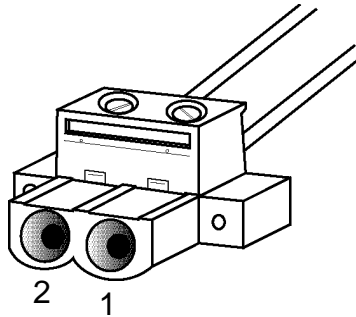

Figure 3-17. SDIDU DC Power Cable Connector
1. Using the supplied power cable connector, pin 2 (labeled **-V**) should be connected to the power supply terminal supplying -48 V dc, while pin 1 (labeled **RET**) should be connected to the power supply return. Refer to Figure 3-17. Use of a power supply with an inappropriate ground reference may cause damage to the SDIDU™ and/or the supply.
2. Connect the SDIDU™ power cable to the 48 V dc power supply, and place the voltmeter probes on the unconnected SDIDU™ end of the power cable, with the positive voltmeter probe on pin 2 (**-V**) of the cable connector and the negative probe on pin 1 (**RET**). The connector terminal screw heads may be used as convenient monitor points. Refer to Figure 3-17.
per step 2 above. Refer to Figure 3-17. Note that the Software Defined IDU™ SDIDU™ does not have a power on/off switch. When DC power is connected, the digital radio powers up and is operational. There can be up to 5 W of RF power present at the antenna port. The antenna should be directed safely when power is applied.